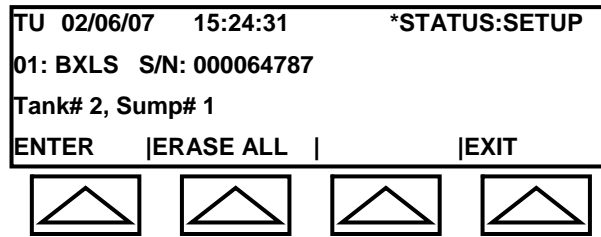

Fig. 1.4b: Edit Screen
- ◆ EDIT – displays the Editing Screen Figure 1.4b).
The screen will appear as in Figure 1.4b.